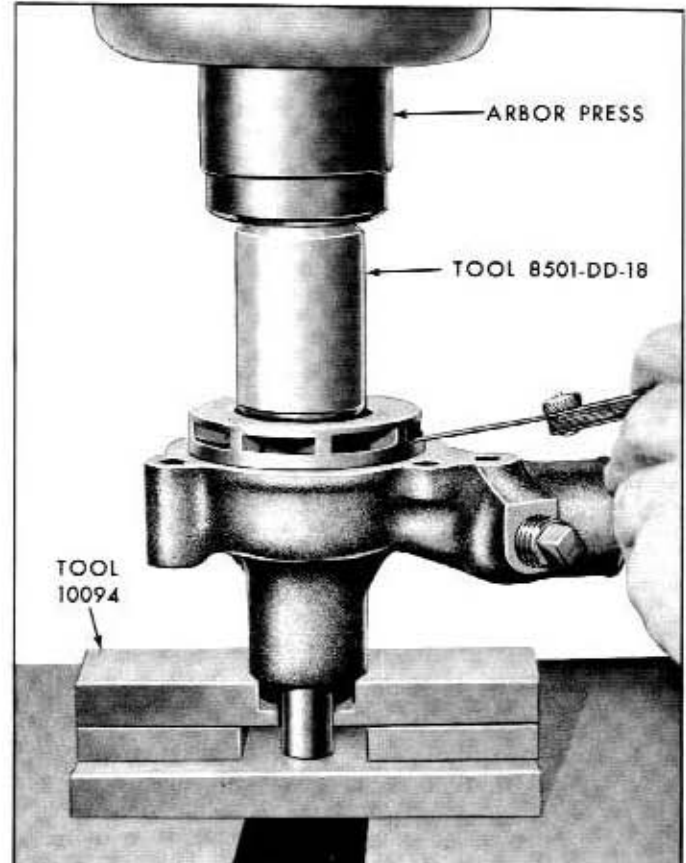

Fig. 8-10—Impeller Installation—(60C-6010)
5. Lightly coat the seal rubbing face of the impeller with grease. Use Tool 8501-DD-18 and press the shaft into the impeller. See figure 8-10. Press the shaft into the impeller just far enough so that the pump housing lightly touches the face of the adapter ring. If excessive pressure is exerted on the shaft after the rear face of the housing contacts the adapter ring, the pump bearing will be damaged. The impeller to pump body clearance should be 0.005-0.0051 inch after the impeller is installed.